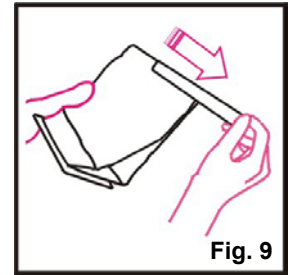

Fig. 9
- Hold the dust bag over a dustbin. Remove the clip by sliding it off the dust bag sideways. (See fig. 9)